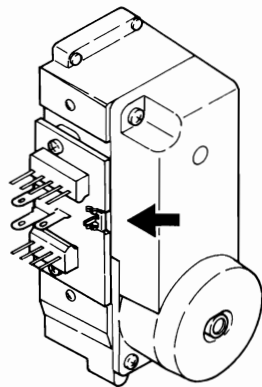

Figure 26
3. When mounting a new laser pick-up, first connect the connector and leads and then remove short-circuit spring on the P.C. Board. (Refer to Fig. 26 and 27)